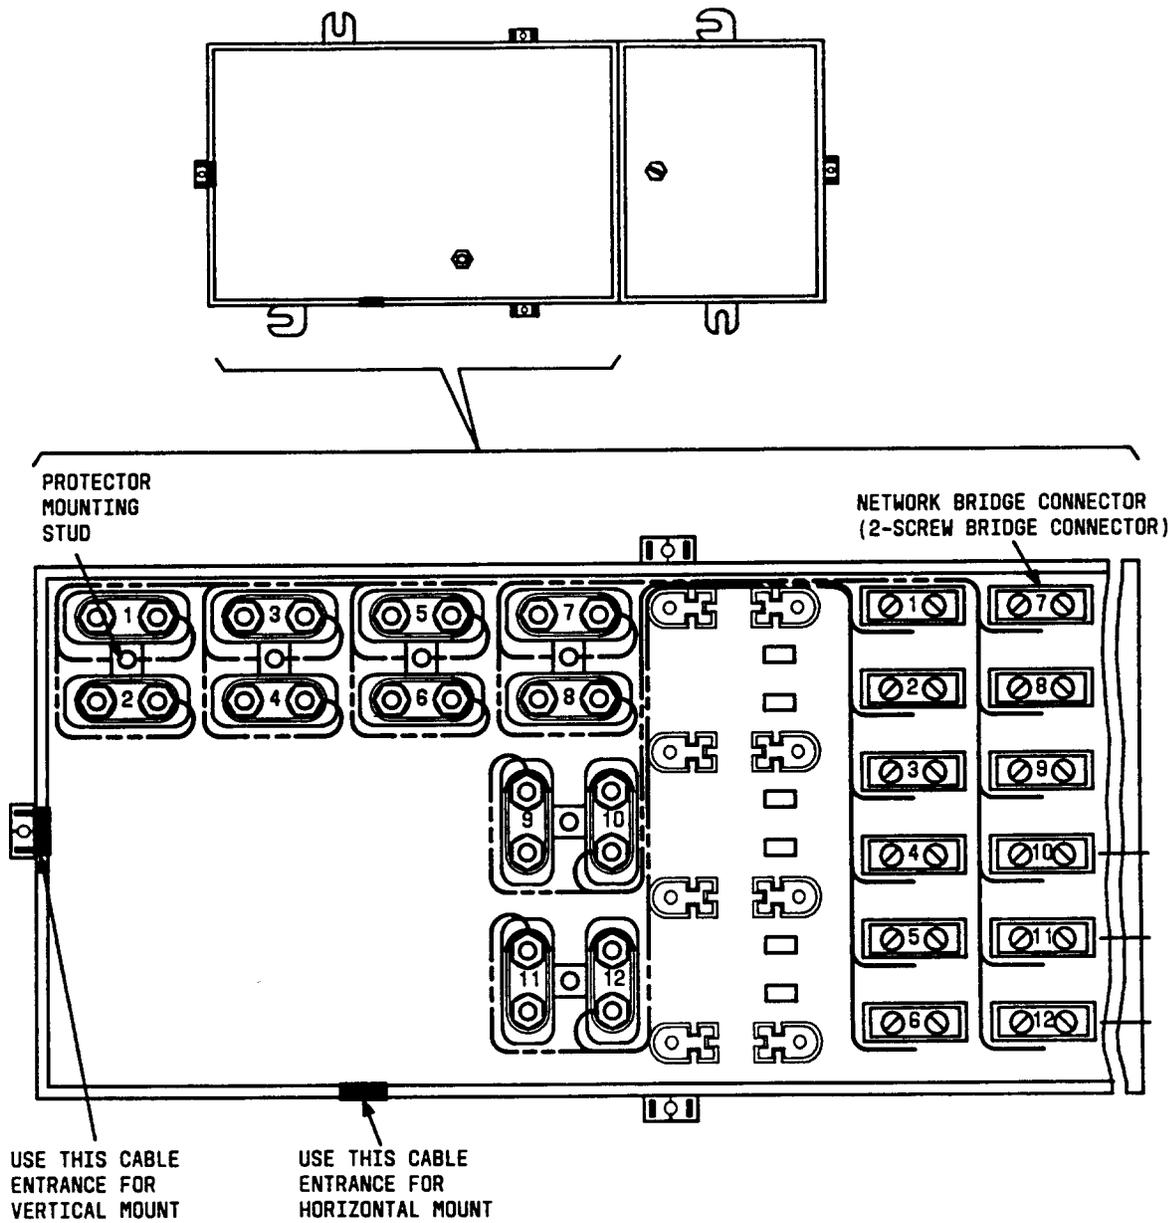

Fig. 9—12-Pair Factory Wired Unit
5.06 The 12-pair unit is factory wired. Figure 9 is provided to show protector pair-number assignment.